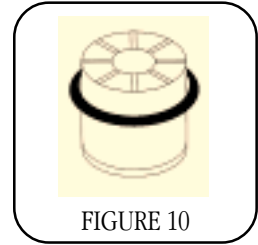

FIGURE 10
- b) Remove the blue seals on each end of the filter. Note that one end of the cartridge has a lip around the outside. Consider this the bottom (see figure 10).